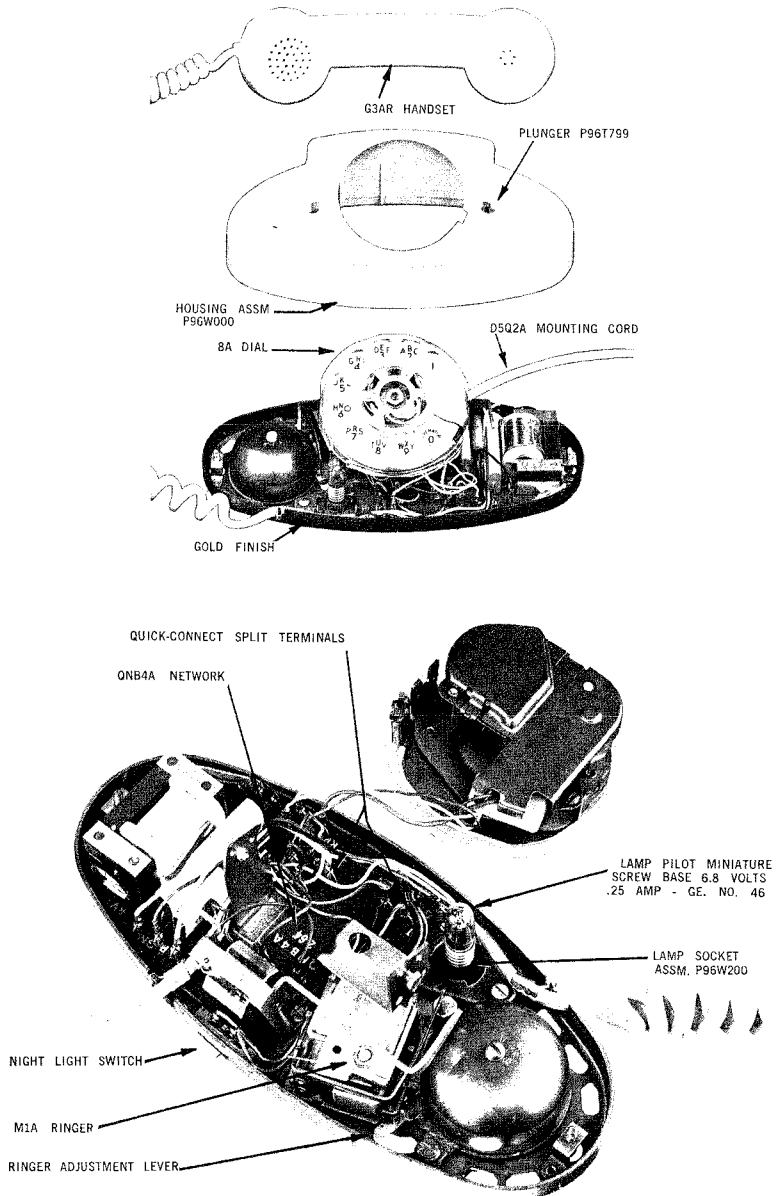

Fig. 5 - 702BQ1A Telephone Set Showing Circuit Board Network
**2.10** The 702 type telephone set Fig. 5. is similar to the 701 type except that an internal ringer (MIA) is provided in the base of the set.